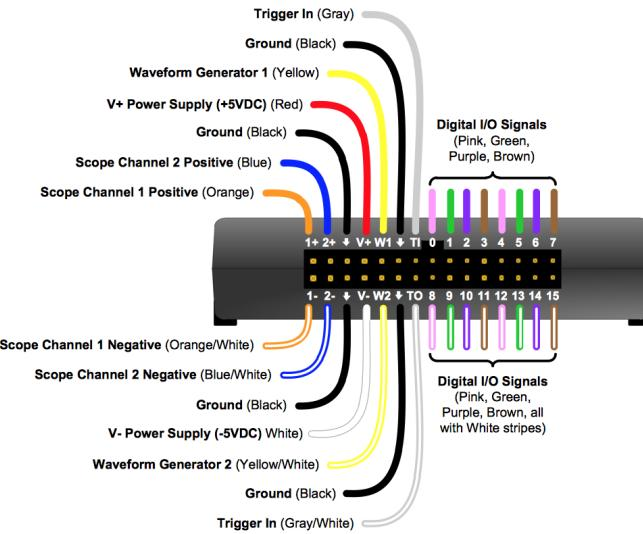

Figure 17: Pin out diagram of the Analog Discovery
4. Connect the output of the LPF to the “1+” pin of the Analog Discovery. Connect the ground reference of the LPF to the “Ground” pin. A pin out diagram of the Analog Discovery is shown in Fig. 17.